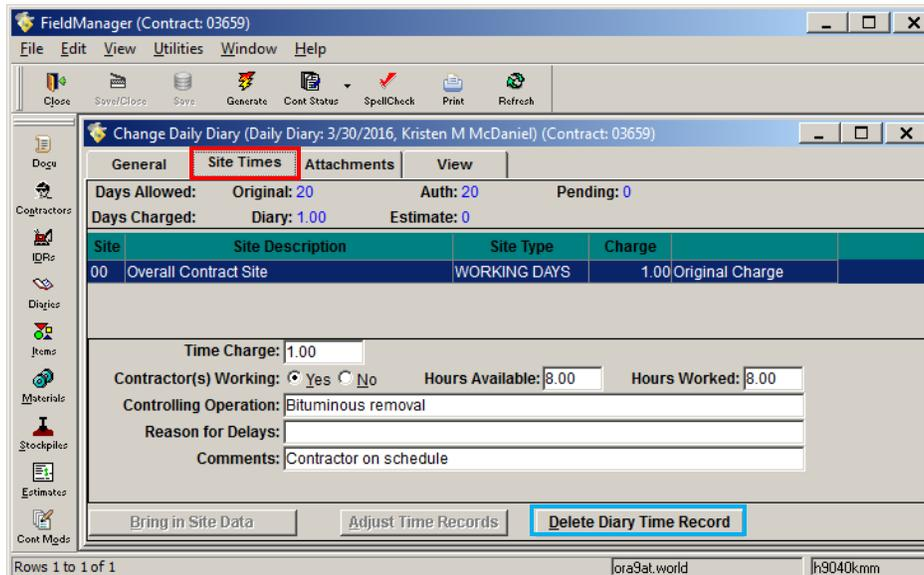
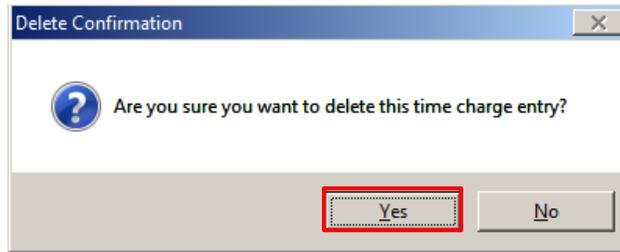

Figure 8-9. Change Daily Diary Tab Window – Site Times Tab
Figure 8-10. Site Times Tab – Delete Confirmation Window
1. Click on the **Site Times** tab (Figure 8-9).
3. The entire record can also be deleted by clicking the **Delete Diary Time Record** button (see blue box in Figure 8-9). This will open a Delete Confirmation window (Figure 8-10).